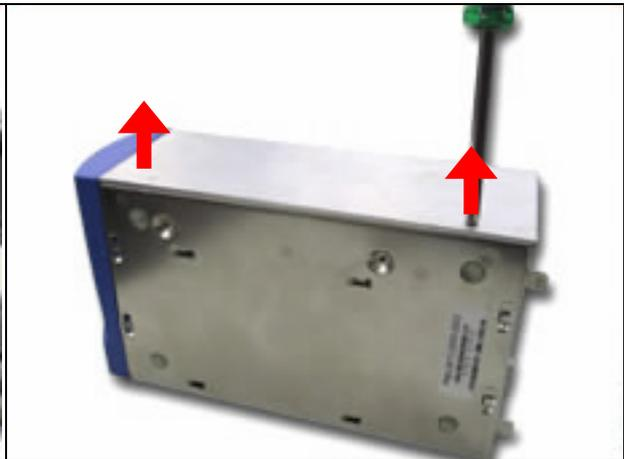

*Fig. 2-7 Pull out the inner steel case*
4. Pull out the inner steel case (*Fig. 2-7*).